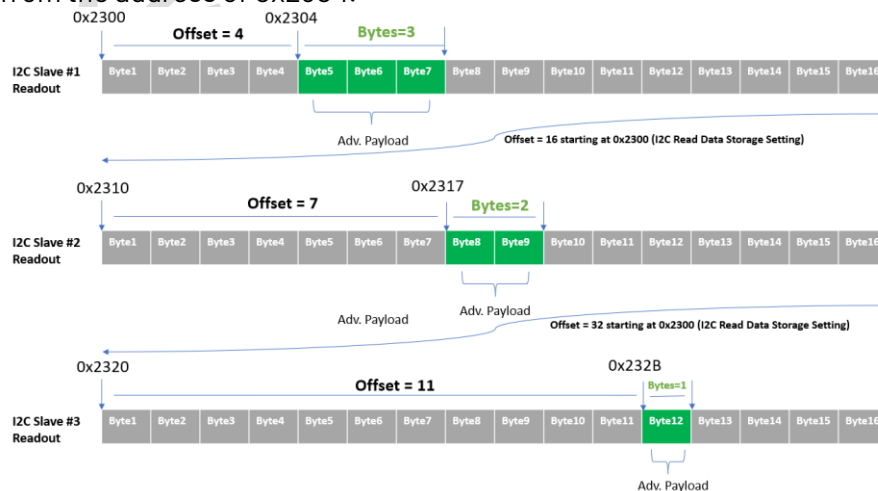

Figure 11 : I2C read data as adv. payload
- i) I2C Slave #1 Read Data: The data of a I2C Slave #1 data read out with a given I2C Slave #1 read address (default address is 0x2300). Read address **Offset** and read length (**Bytes**) can be entered in bytes. The read data can be with endianness and encryption options. Only the selected read data will be advertised as the data payload. An example of such is as shown in Figure 11. The offset is 4 and Bytes is 3. The device will only advertise the 3 bytes of I2C read data starting from the address of 0x2304.
- j) I2C Slave #2 Read Data: The data of a I2C data #2 data read out with a given I2C Slave #2 read address (default address is 0x2310). Read address **Offset** and read length (**Bytes**) can be entered in bytes. The read data can be with endianness and encryption options. Only the selected read data will be advertised as the data payload as shown in Figure 11.
- k) I2C Slave #3 Read Data: The data of a I2C data #3 data read out with a given I2C Slave #3 read address (default address is 0x2320). Read address **Offset** and read length (**Bytes**) can be entered in bytes. The read data can be with endianness and encryption options. Only the selected read data will be advertised as the data payload as shown in Figure 11.